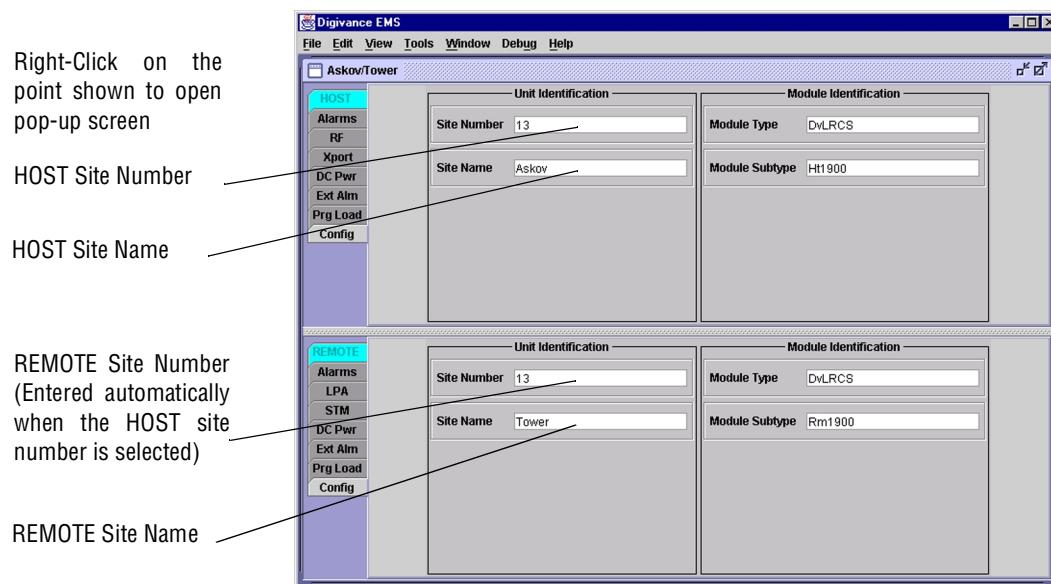
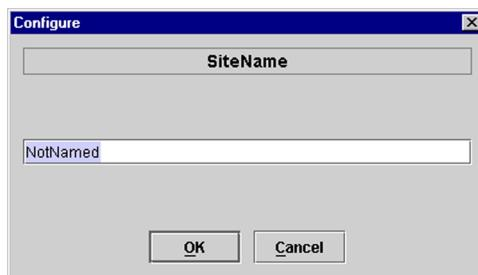

Figure 4-6. HOST and REMOTE Config Displays
Figure 4-7. HOST Site Name Pop-Up Screen
1. Click on the **HOST Config** tab and on the **REMOTE Config** tab. The **HOST Config** display and the **REMOTE Config** display will open within the EMS main window as shown in Figure 4-6.
2. Right-click on the **HOST Site Name** field (see Figure 4-6). The **Site Name** pop-up screen will open as shown in Figure 4-7. Enter a unique name for the HOST. The name may be up to 32 characters long and must not contain any spaces. The name may include numbers, punctuation, and upper or lower case letters and must always begin with a letter. Click on **OK** to close the screen and make the changes take effect.
3. Right-click on the HOST **Site Number** (see Figure 4-6). The **Site Number** pop-up screen will open. Enter any number between 1 and 24 and then click on OK to close the screen and make the changes take effect.
4. Check the REMOTE **Site Number** field (see Figure 4-6). The REMOTE Site Number does not have to be entered. When the HOST Site Number is entered, the system will automatically enter the same number for the REMOTE Site Number.
5. Right-click on the REMOTE **Site Name** field (see Figure 4-6). The **Site Name** pop-up screen will open. Enter a unique name for the REMOTE. The name may be up to 32 characters long and must not contain any spaces. The name may include numbers, punctuation, and upper or lower case letters and must always begin with a letter. Click on OK to close the screen and make the changes take effect.